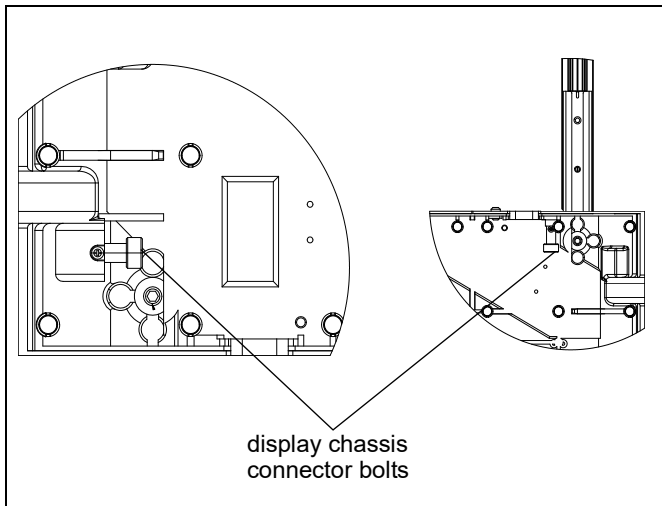

Figure 29
9. Use display hardware included with display panels (typically threaded shoulder bolts or cam-locks) to connect displays to each other. (See Figure 29)